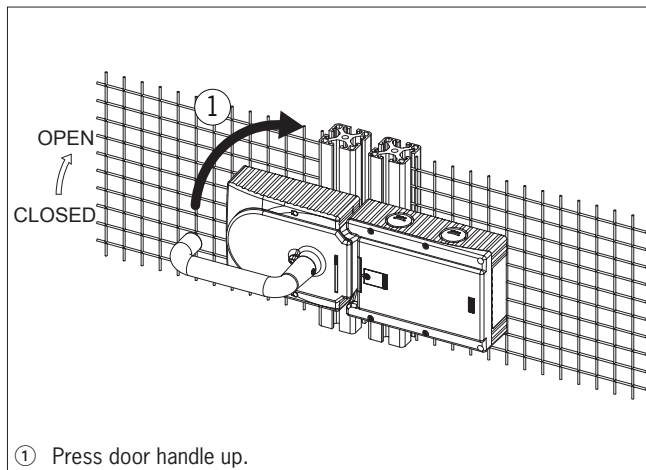

Figure 9: Changing actuating direction, step ①
For installation steps see Figure 8 and Figures 9 to 14.
- The system is mounted the other way up, as it were, for doors hinged on the left. In other words, the safety guard opens by pressing up the door handle (see Figure 9). For this reason the actuating direction of the door handle must be changed (see Figures 9 - 14).